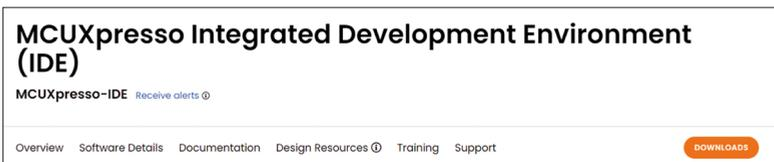

Figure 2.2: Click Downloads.
- Click **DOWNLOADS** (Figure 2.2)